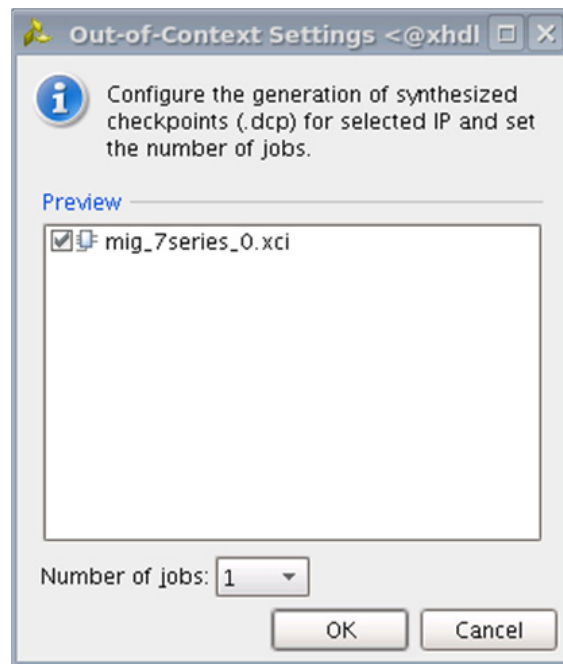

Figure 2-29: **Out-of-Context Settings Window**
2. Click **Out-of-Context Settings** to configure generation of synthesized checkpoints. To enable the Out-of-Context flow, enable the check box. To disable the Out-of-Context flow, disable the check box. The default option is "enable" as shown in Figure 2-29.